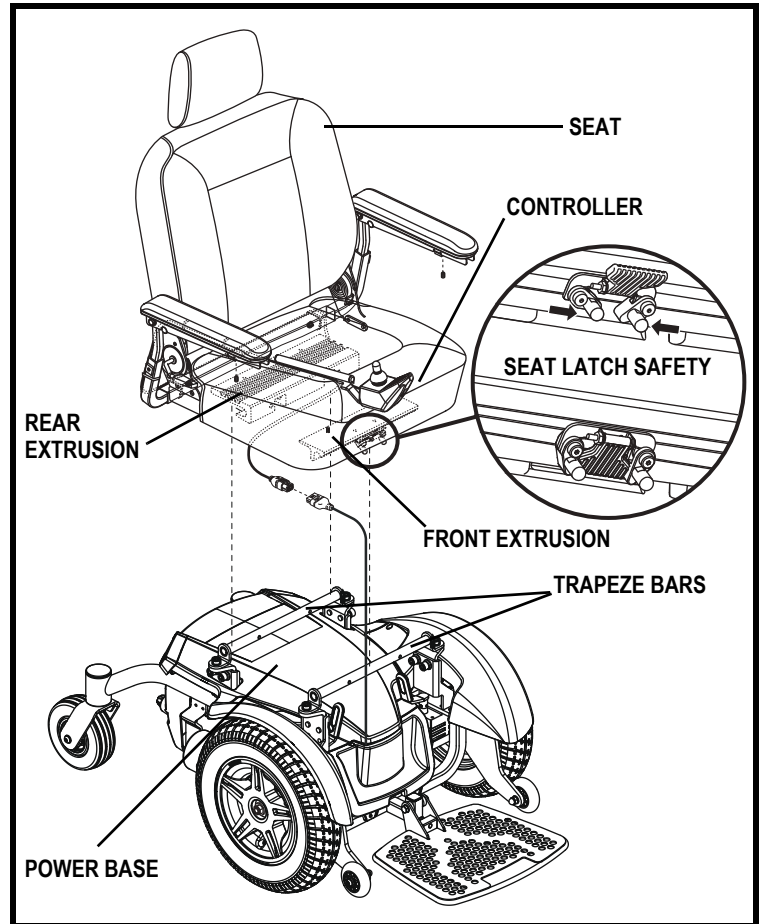

Figure 6. Seat and Controller Assembly
It may be necessary to install the seat either prior to initial operation or after transporting your power chair. Contour seats are attached to the power base with the Universal Mounting System (UMS). The UMS consists of universal parts that may be attached to the seat, regardless of seat width or seat depth. The two main components are aluminum extrusions mounted to the seat base. These extrusions attach to a pair of trapeze bars that are mounted to the power base. See figure 6.
1. Tilt the seat back and slide the rear extrusion onto the rear trapeze bar. See figure 6.
4. Flip up the seat latch safety. See figure 6.
7. Remove the hardware that attaches the trapeze bars to the seat interface weldments. See figures 6 and 8.